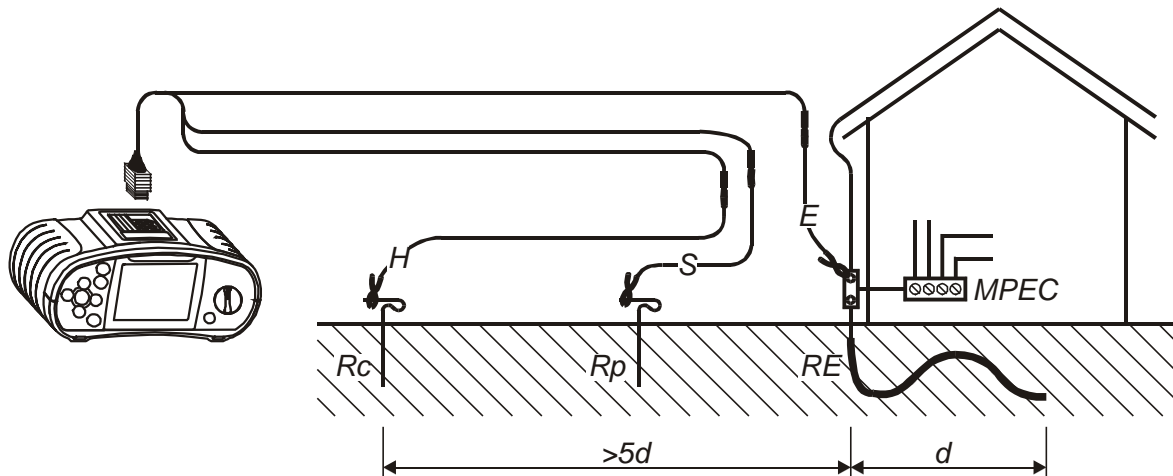

Figure 5.43: Connection of standard 20 m long test leads
Step 2 Follow the connection diagram shown in figure 5.43 to test phase sequence.